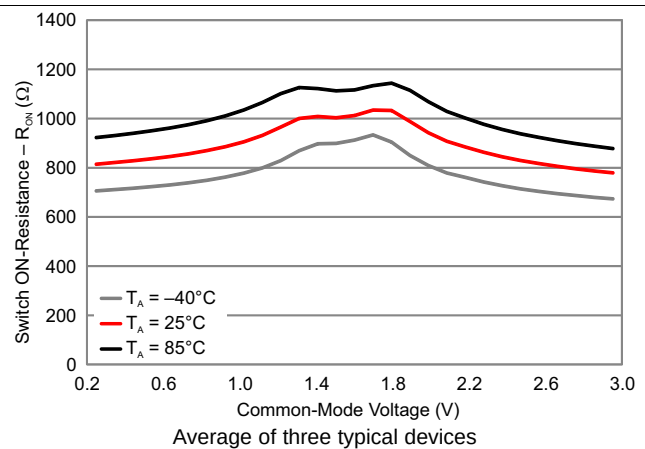

Figure 5-29. OA Switch R_{ON} vs Common-Mode Voltage
- (1) This leakage includes all leakage seen at the device pin, not only leakage caused by the switch itself. It assumes a total of five switches present and a shared digital I/O.
- (2) The resistance varies with input voltage range. This resistance represents the peak resistance at the worst case input range (see Figure 5-29).